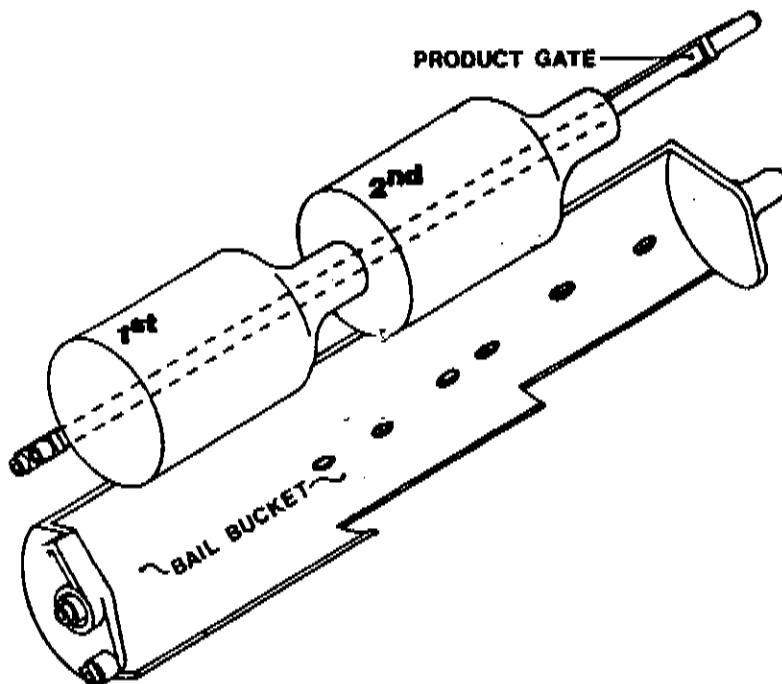

FIG. 25
- b) FOR DOUBLE DEPTH: Load first product as described above then load second product on gate directly behind first product. SEE FIGURE 25